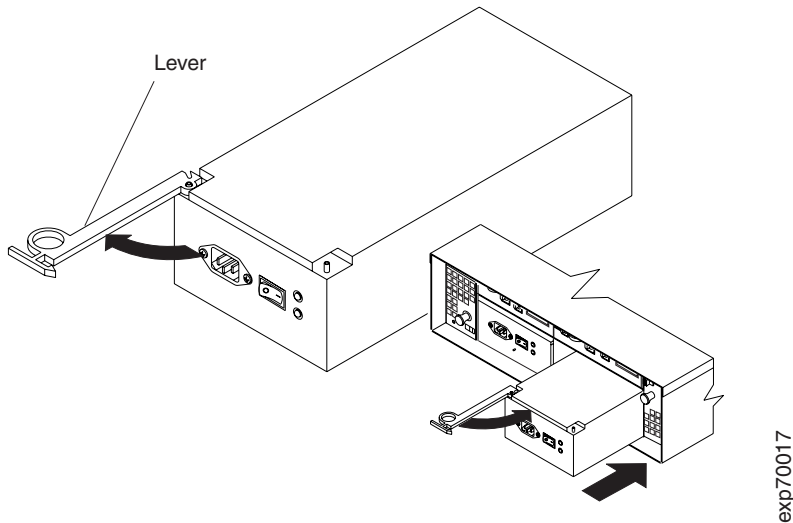

Figure 16. Replacing a power-supply CRU
1. Slide one power supply into the storage expansion enclosure. Be sure the levers are pulled straight out as you slide the power supply into the storage expansion enclosure, as shown in Figure 16 on page 28.